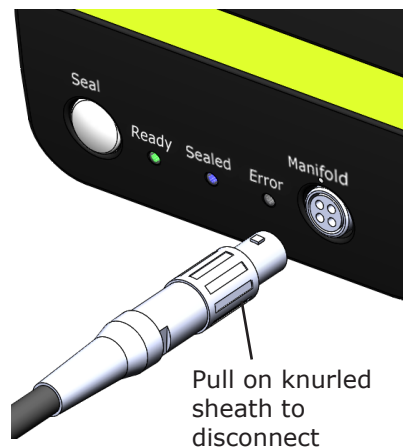

Figure 7. Connecting the manifold plug
5. If the temperature controlled CellASIC® ONIX2 Manifold XT is being used, you must also connect the 4-conductor plug from the manifold. Align the red mark on the top of the plug to the dot on the front panel and push the plug into the socket labeled Manifold (Figure 7) on the front of the system. The plug can be removed by pulling on the sheath; be sure to grab only the knurled sheath when pulling to disconnect.